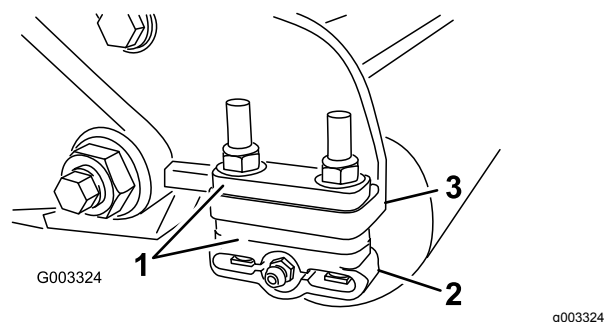

Figure 11
1. Adjust the rear roller brackets (Figure 11) to the desired height-of-cut range by positioning the required amount of spacers below the side-plate mounting flange (Figure 11) per the Height-of-Cut Chart (page 12).